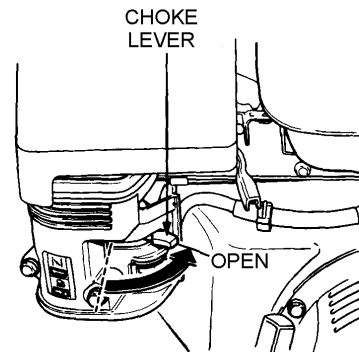

Figure 9. Engine Choke Lever (Open)
5. Place the choke lever (Figure 9) in the **OPEN** position if starting a warm engine or the temperature is warm.
- If the engine has started, and the choke lever was moved to the **CLOSED** position to start the engine, gradually move the choke lever to the **OPEN** position (Figure 9) as the engine warms up. If the engine has not started repeat steps 1 through 6.